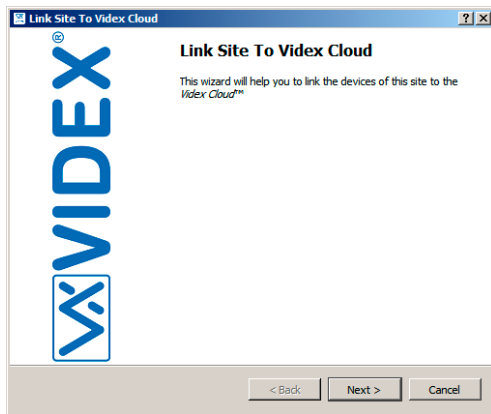

Fig. 32 Click on Vindex Cloud-> Link Site to Vindex Cloud
- Click on "Videx Cloud-> Link Site to Videx Cloud" (Fig. 32) then click on the "next" button.